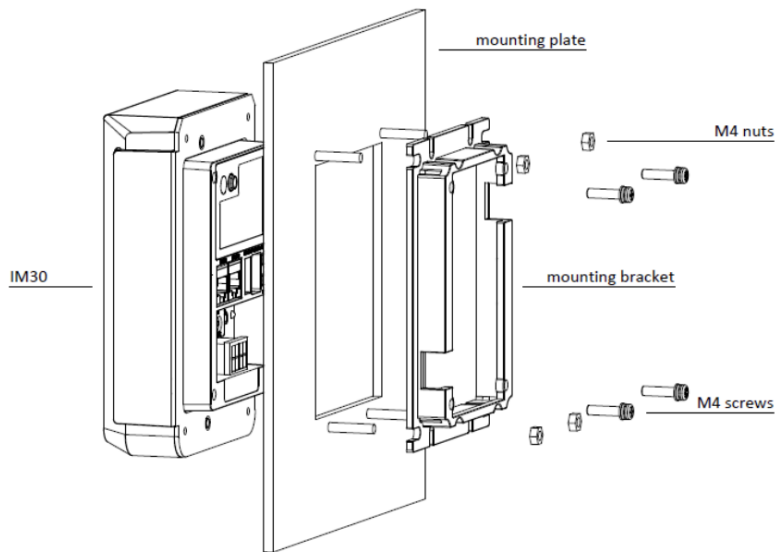

Figure 9: device installation
- 2) The back face of the mounting plate should have four stud bolts corresponding to the mounting points located on mounting bracket. Slide the mounting bracket into place with the orientation shown in figure 9 and then fix it in place with four M4 nuts.
- 3) Slide the IM30 unit into the mounting plate with the orientation shown in figure 9. The back portion of the device should rest securely inside the mounting bracket.